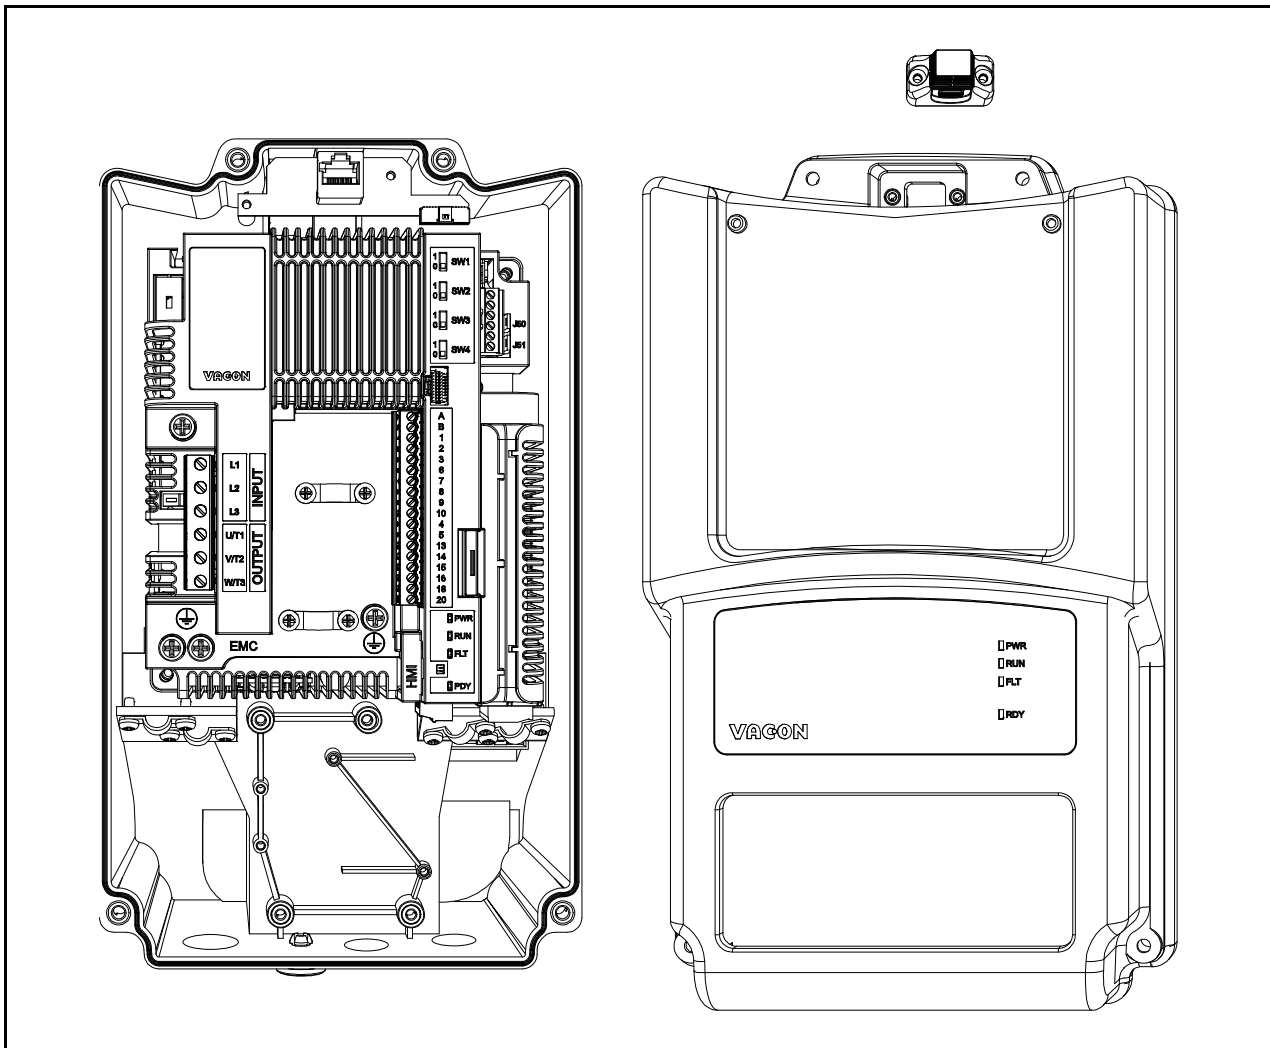

Figure 56. Cover open.
- Remove the cover from the drive. See the Figure 56.